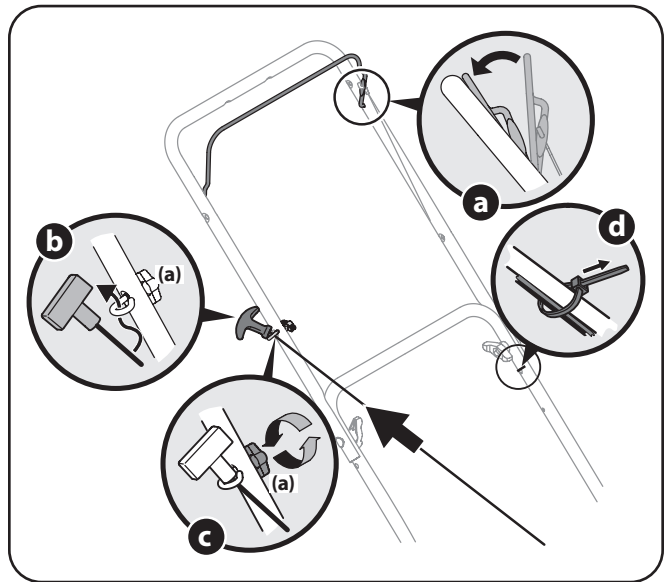

Figure 3-4
3. The rope guide is attached to the right side of the upper handle. See Figure 3-4. Loosen the wing nut (a) which secures the rope guide.
- b. Slowly pull starter rope handle out of the engine and slip starter rope into rope guide. See Figure 3-4.